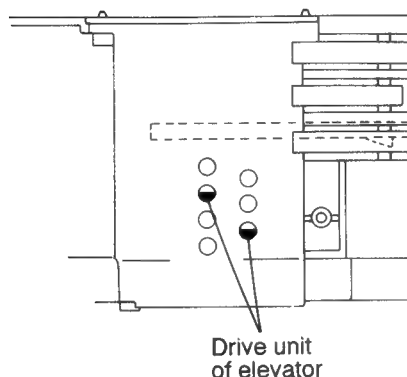
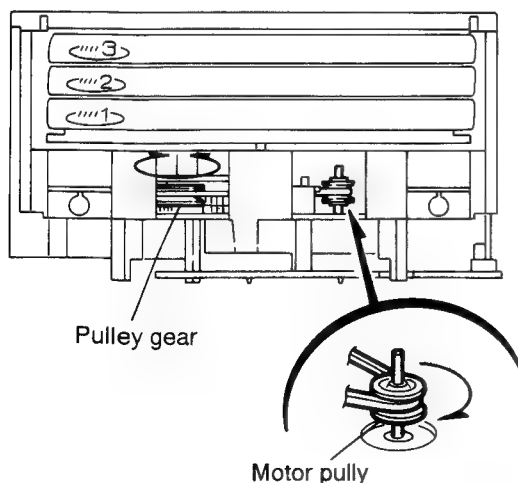

Fig. 5-21a
Fig. 5-22
12. Make sure that the driver unit elevator is positioned as shown in Fig. 5-21a from to the second or fifth hole on the left side face of the CD changer mechanism.
[Caution] In case the driver unit elevator is not at the above position, set the elevator to the position as shown in Fig. 5-21a by manually turning the pulley gear as shown in Fig. 5-22.
13. Manually turn the motor pulley in the clockwise direction until the lifter unit stopper is lowered from the section (F) of CD tray assembly (See Fig. 5-22).